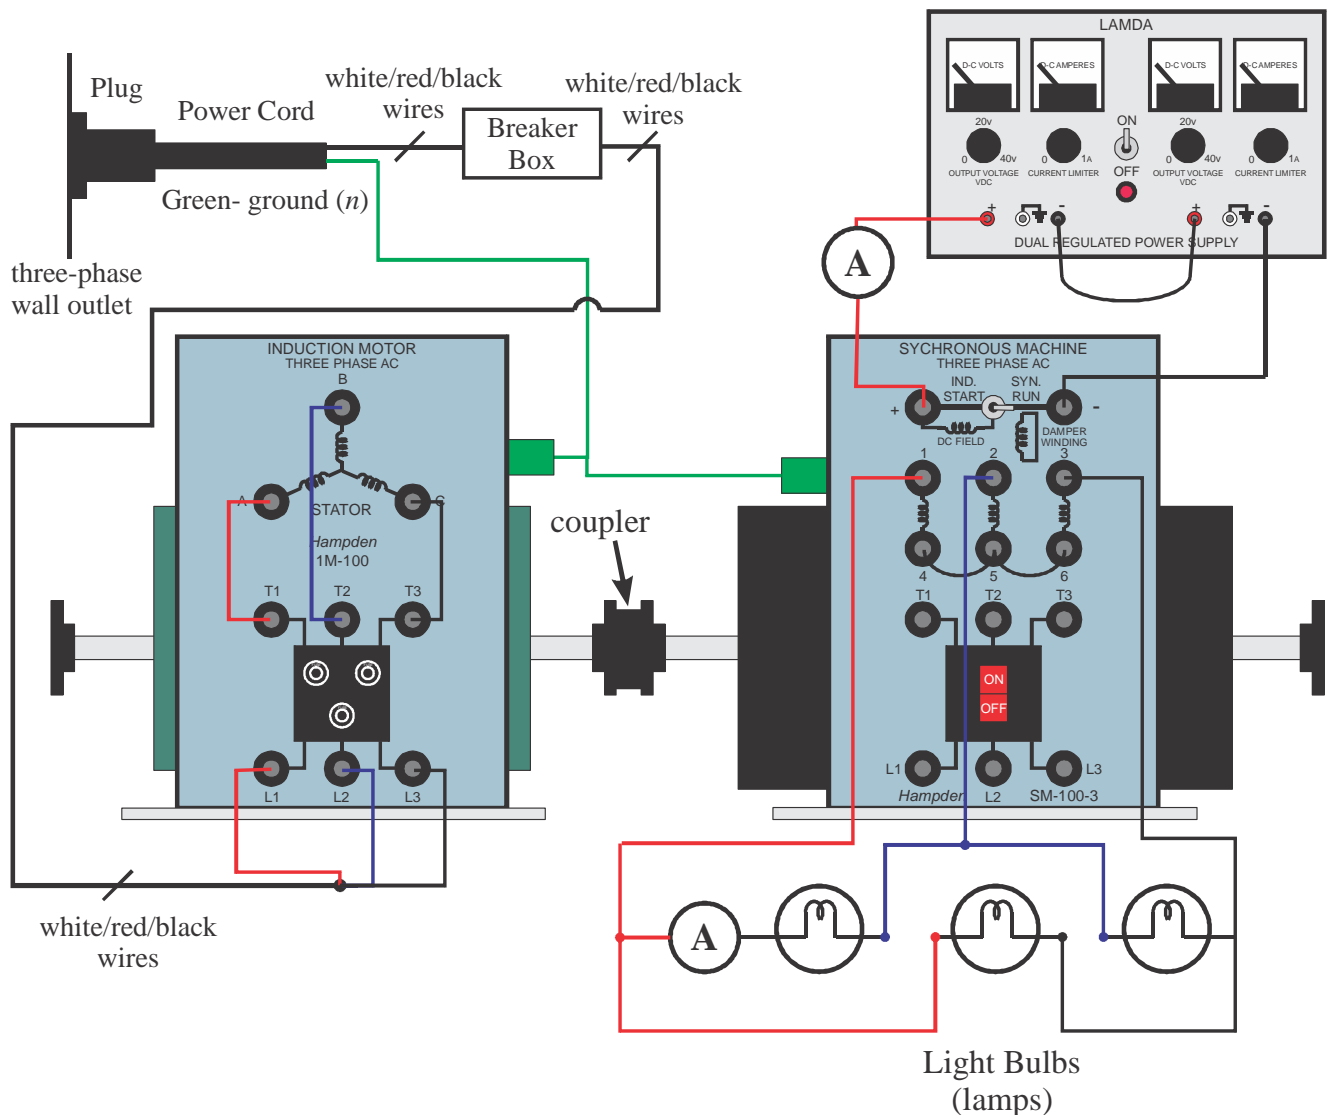

Figure 3 Set-up for three-phase load (Experiment 3).
- 1) In this experiment, a three-phase, Δ -connected, resistive load (i.e., lamps/light bulbs) is connected to the Y-configured synchronous generator. Note that terminals 4, 5, and 6 on the synchronous generator are tied together to create the Y-configuration. A block diagram of the necessary connections, including wattmeters and ammeters, is shown in Figure 3. Record the rated power P_{rated} (W) and voltage V_{rated} (V_{rms}) for the light bulbs.
- 2) Turn on the three-phase breaker to start the induction motor. If necessary, adjust the position of the synchronous generator so they both turn smoothly. Start by adjusting both voltage knobs to zero (all the way CCW) on the dc power supply and adjusting the current limit knobs to maximum (all the way CW). Turn on the dc power supply. Adjust the dc power supply voltage (try to keep both sides roughly balanced) to achieve a field current I_f (A) such that the light bulbs are supplied with their rated voltage. Measure and record field current I_f (A), electrical frequency f_e (Hz), mechanical rotation velocity n_m (RPM), and the phase current I_ϕ (A_{rms}) and line-to-line load voltage $V_{LL,L}$ (V_{rms}) supplied to the light bulb connected between terminals 1 and 2. Leaving the dc power supply voltages **in place**, turn off the dc power supply, and set the three-phase breaker to ‘off’. **Do NOT** disconnect any wires before reading next step.